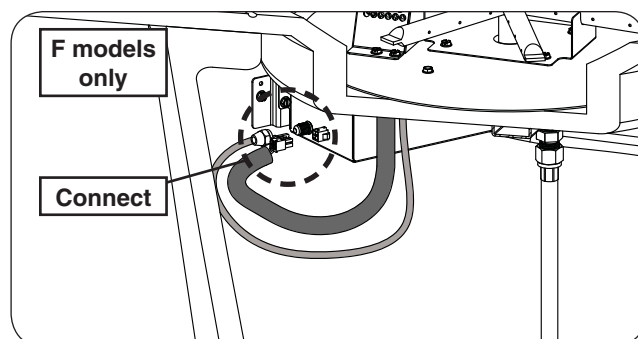

Fig. 22-5 Connect pilot line and electrical
6. **F Models: connect pilot line and electrical to control box (See Fig. 22-5).**